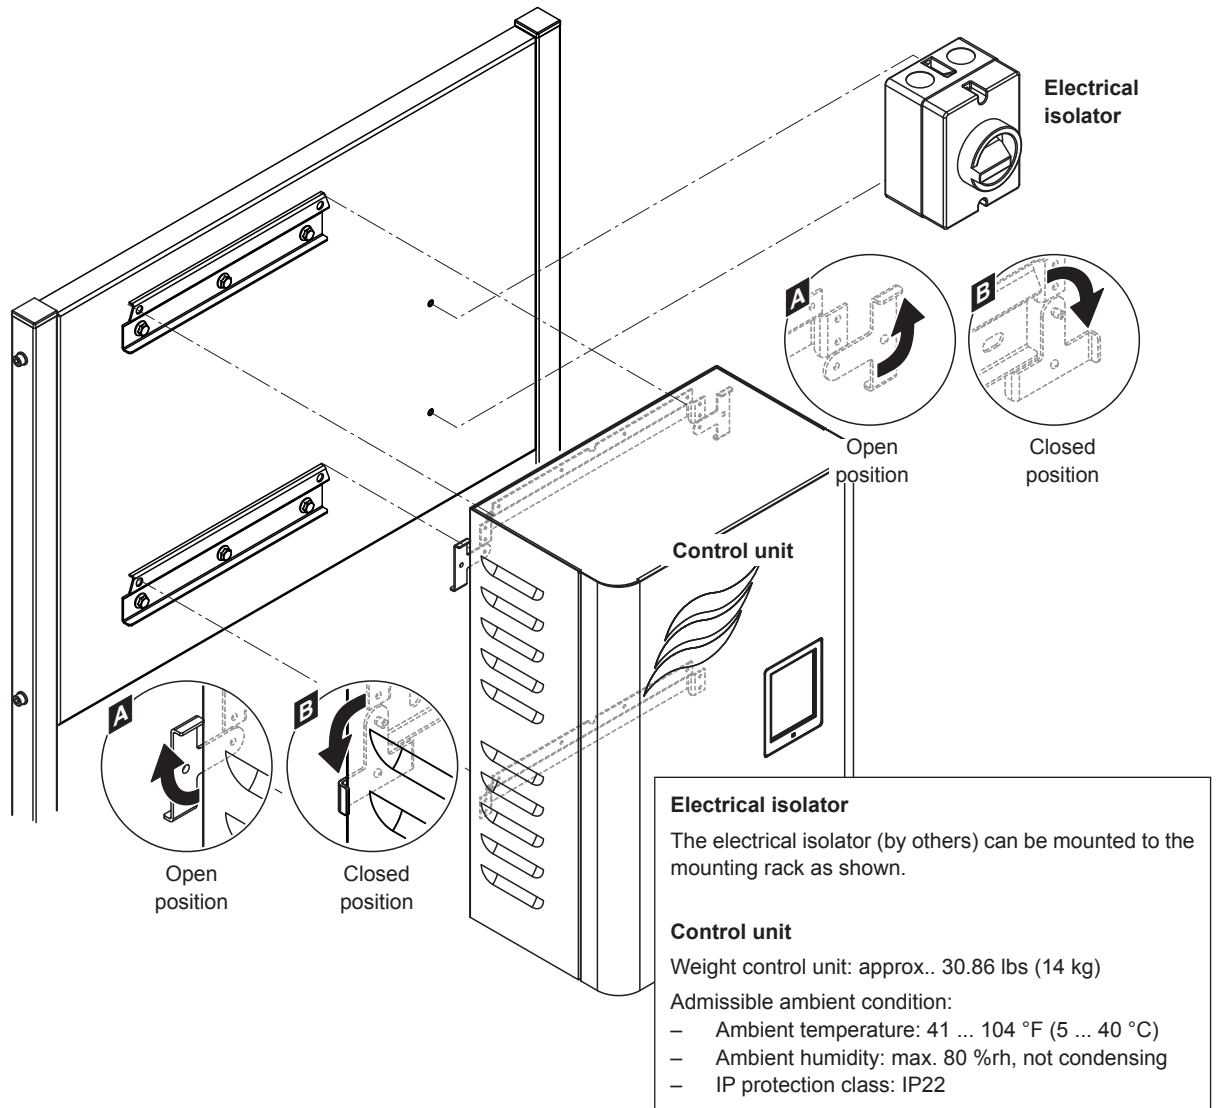

Fig. 37: Mounting the control unit - dimensions in Inch (mm)
1. Move the locking hooks on the back of the control unit to open position (see detail "A" in Fig. 37).
3. Move the locking hooks on the back of the control unit to closed position (see detail "B" in Fig. 37) in order to fix the control unit to the upper wall support.